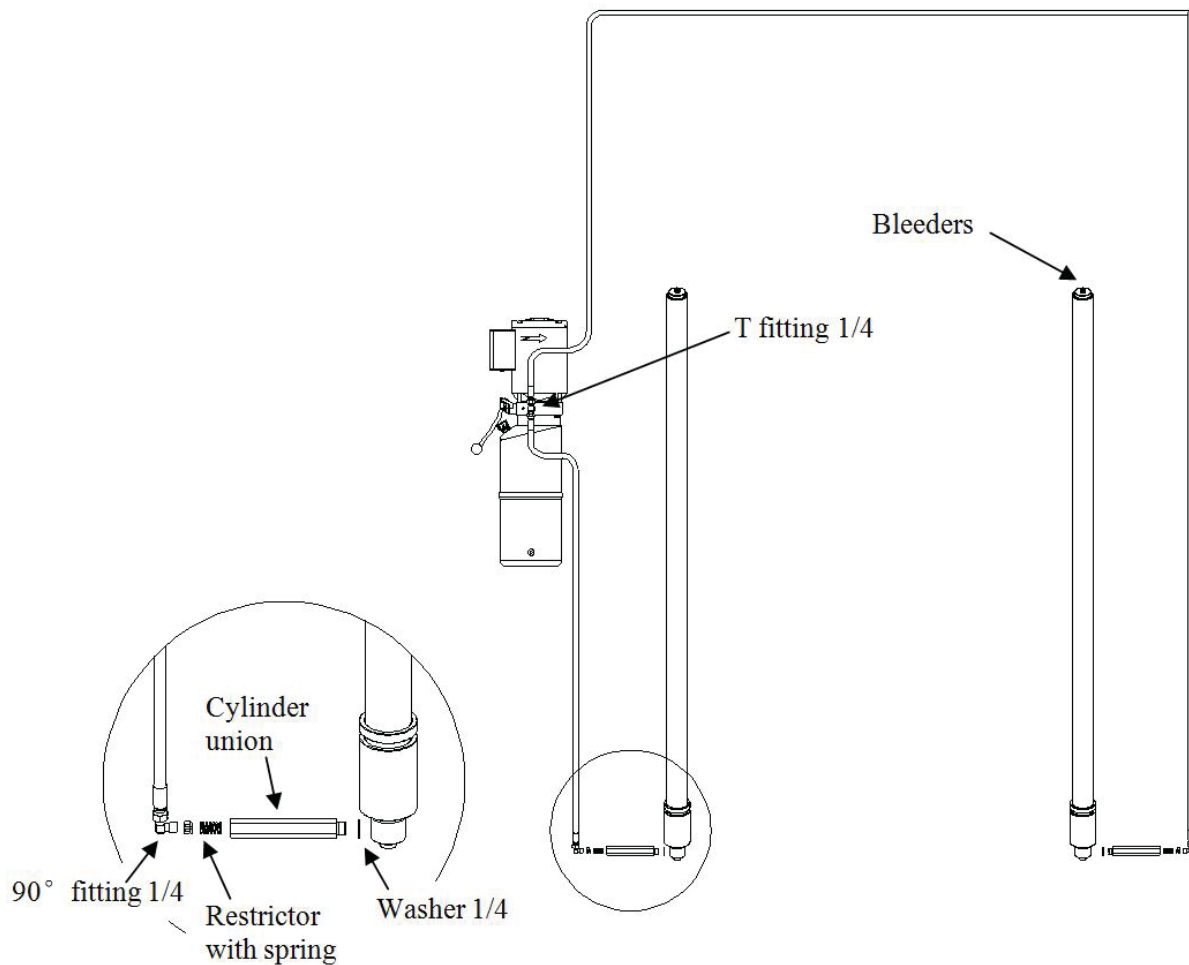

Figure 14 – Hydraulic Line Connection
- Open the bleeder of each cylinder approximate two turns (ref. fig. 14):